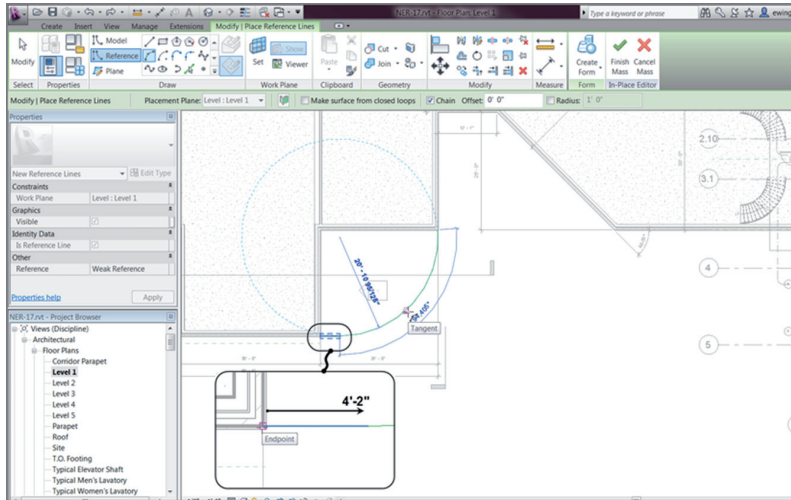

FIGURE BC1.39: Creating the plan geometry
5. On the Draw panel, click the Reference Line button, as shown in Figure BC1.39.
10. Move your cursor to the right until the arc snaps to the tangency, and then pick the third point (see Figure BC1.39).